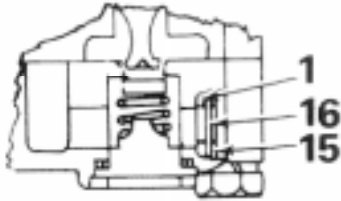

Figure 2
NOTE: The kit contains necessary parts to repair three different versions of the VM-1 valve. Item 1, O-Ring 240543, is used only in the oldest version such as 283039 or 283934 as shown in partial section Fig. 2. Items 5, 6, 7, and 8 are used in the early version plus the second version, such as 287050.
1. Remove the six cap screws and lock washers (11).
2. Separate upper, lower, and intermediate bodies. Remove gaskets (9) and (10).
3. Remove piston (12) and piston spring (8) from intermediate body. Remove O-Rings (2) and (3) from piston.
4. Remove both double check shuttles (4) and guides from body.
5. Remove large snap ring (13) from lower body and remove valve retainer (14) and inlet valve spring (7). Remove O-Ring (5).
6. On older version valves (see Fig. 2) remove the small snap ring (15), sealing disc (16) and O-Ring (1).
7. Install the proper inlet valve (6), spring (7), and retainer (14). Install the retaining ring (13) making sure it is engaged in groove.
8. On early design valves place O-Ring (1) (Fig. 2) in place. Install sealing disc (16) and retaining ring (15), making sure retaining ring fits properly in groove.